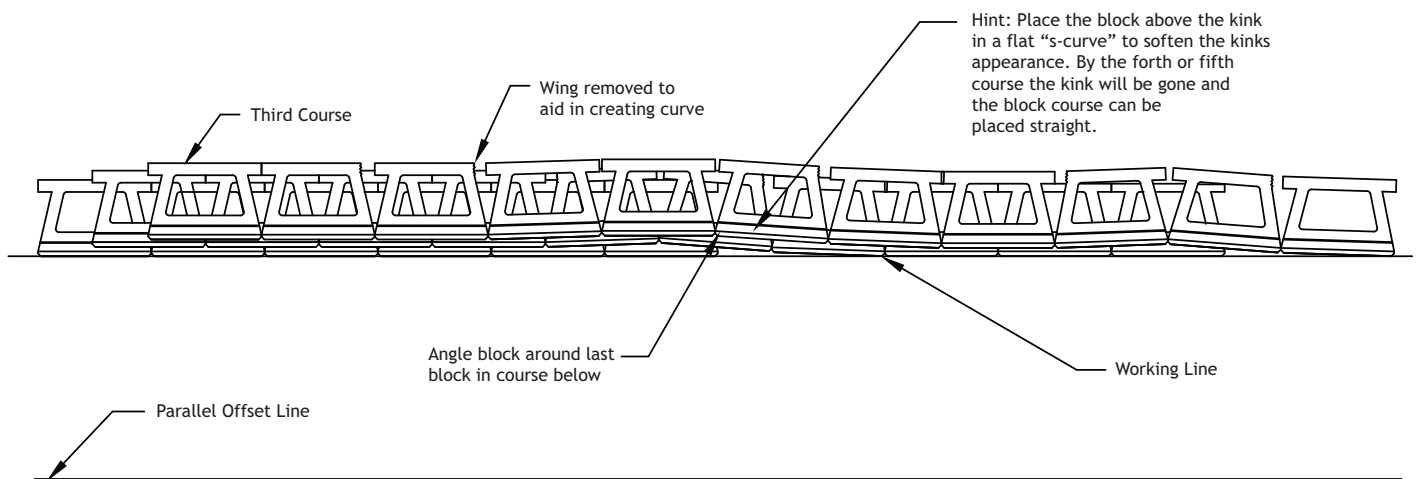

Figure 8: Using a Kink to Build a Straight Wall – Building the Third Course the Second Course
- Construct the third course, softening the kink above the end of the base course, see Figure 8.